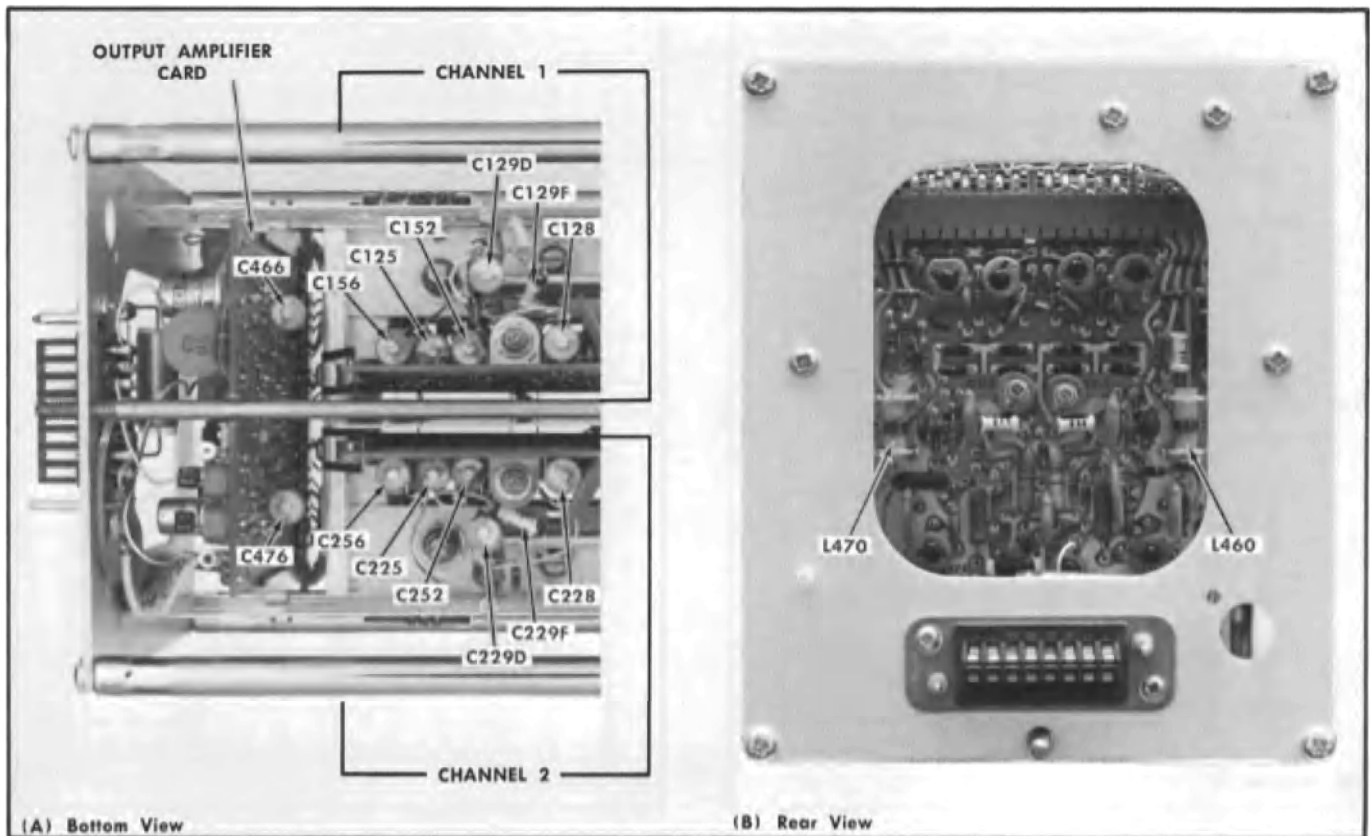

Fig. 7-31. (A) Bottom and (B) rear views of the Type 1A1 showing locations of high-frequency compensating adjustments.
h. ADJUST—C125, C128, C152, C156, C466, C476, L460 and L470 (see Fig. 7-31) for optimum high-frequency response to a square wave. The resulting waveform may have a slightly overpeaked front corner and a slight dip that follows the corner within specification limits.